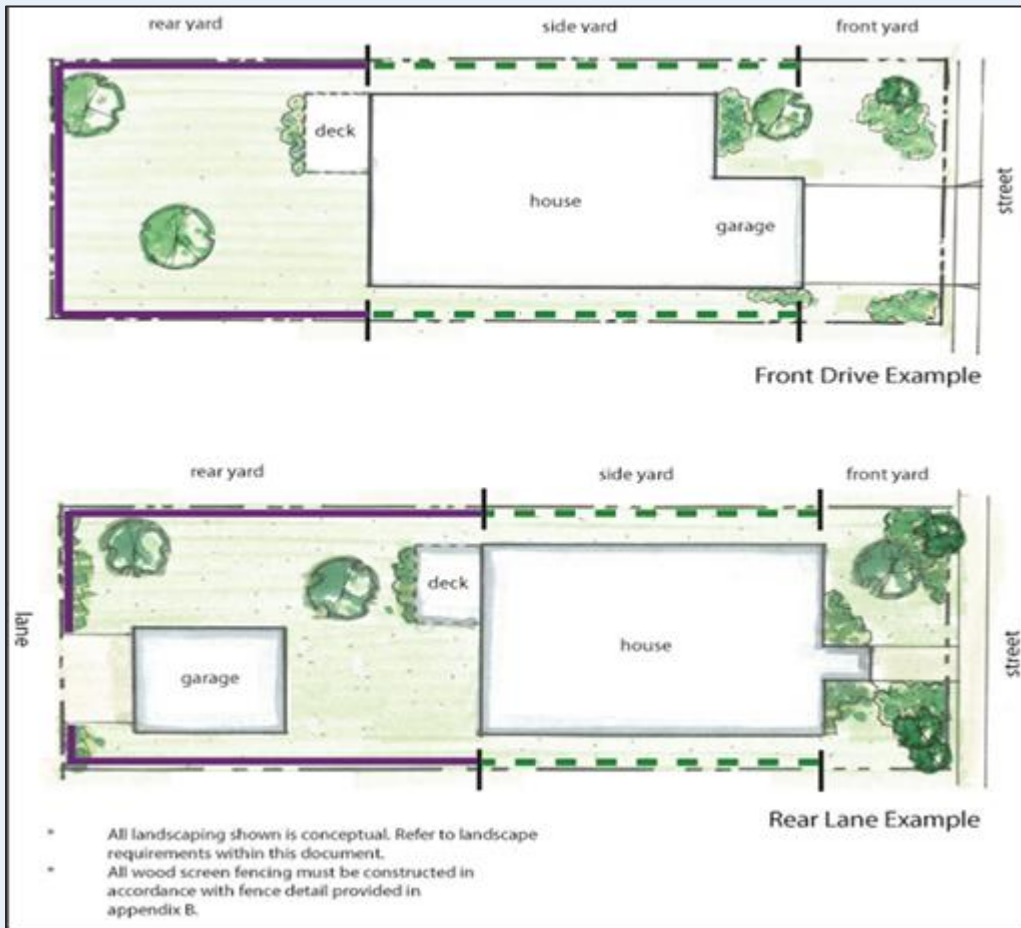

Figure 2: Fencing Plan – Typical Lots
- Fencing for typical lots shall be designed as shown in Figure 2: Fencing Plan – Typical Lots, with 1.8 m wood screen fencing along the rear and side yards.